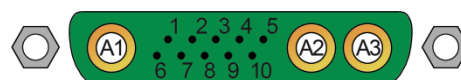

Figure 2: *OUTPUT* connector
Step 6: Now, the illumination(s) can be connected to the *Strobe Controller*. Illuminations are connected to the *OUTPUT* connector on the backside of the housing with the pin assignment shown in figure 2. Pin A3 delivers a configurable voltage, while Pins 1 to 4 switch to ground independently for each channel. The number of available channels depends on the used *Strobe Controller* model.